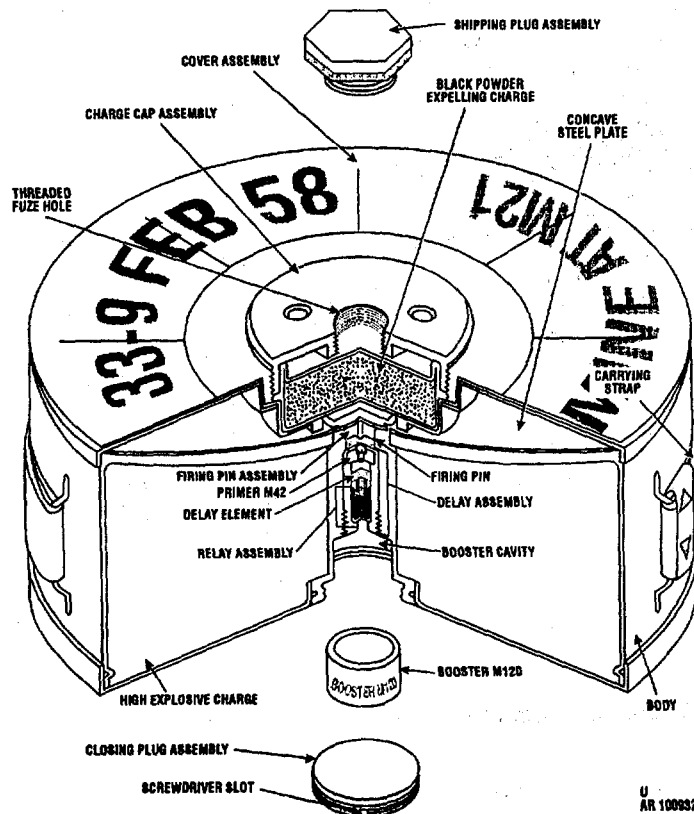
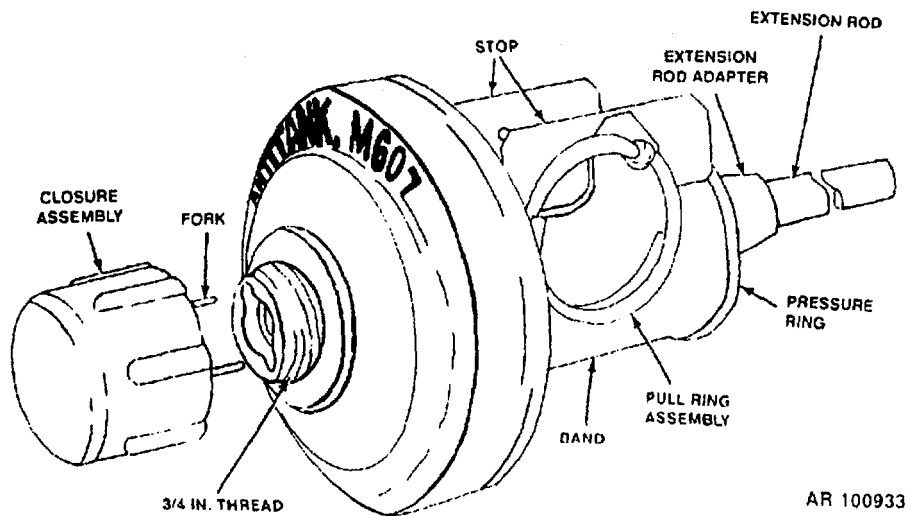
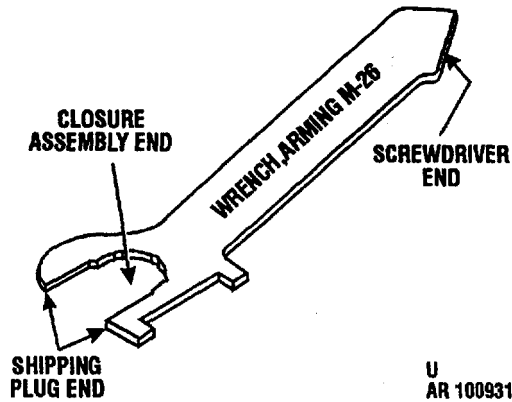

Figure 2-53. Cutaway view of mine, antitank: M21.
Figure 2-55. Removal of closure assembly from fuze M607.
Figure 2-56. Arming wrench M26.
**2-9. Mine, Antitank: HE, Heavy, M21, with Fuze, Mine Combination, AT M607 (Fig 2-53)**
- (1) Mine M21 is used primarily for destroying heavy tanks and heavy tracked and wheeled vehicles.
- (2) The mine derives its effectiveness from the action of a steel dish, in the mine, being driven through a tank's belly armor by the detonation of the high-explosive charge of the mine underneath it.
- (3) The blast effect will damage/destroy tank treads.
- (4) Casualties and injuries to personnel will result from the blast effect and the spalling of the tank armor when it is penetrated by the steel dish.
- (3) Assure that cotter pin of the fuze pull ring assembly and the fuze closure assembly are securely in place (fig. 2-55).
- (4) Turn mine bottom up and, with screwdriver end of wrench M26 (fig. 2-56), remove closing plug assembly (fig. 2-53) by turning counterclockwise.
- (5) Inspect booster cavity for foreign material. Remove, if present.
- (6) Insert booster M120, washer side toward fuze, into booster cavity.
- (7) With wrench M26, replace closing plug assembly by turning clockwise until tight. Gasket of closing plug assembly should be against the booster.
- (8) For long term emplacement, coat threads of closing plug assembly with silicone grease G-697 or equivalent.
- (9) Turn mine bottom down.
- (10) With wrench M26, and using shipping plug end, remove shipping plug assembly from fuze hole cavity of mine.
- (11) Inspect for foreign material. If present, remove from hole.
- (12) For long term emplacement, coat charge gap fuze threads with silicone grease G-697 or equivalent.
- (13) With closure end of wrench M26, remove closure assembly from fuze M607 (fig. 2-55). Gasket on bottom of fuze should remain in place.